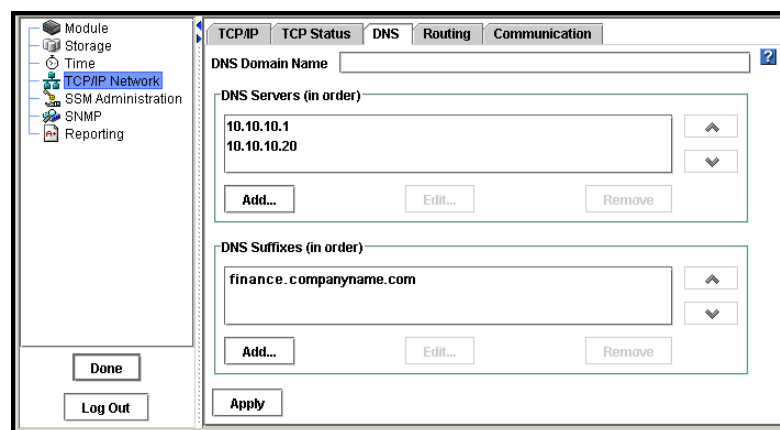

Figure 91. Adding DNS Servers
3. Click the DNS tab to bring it to the front, shown in Figure 91.